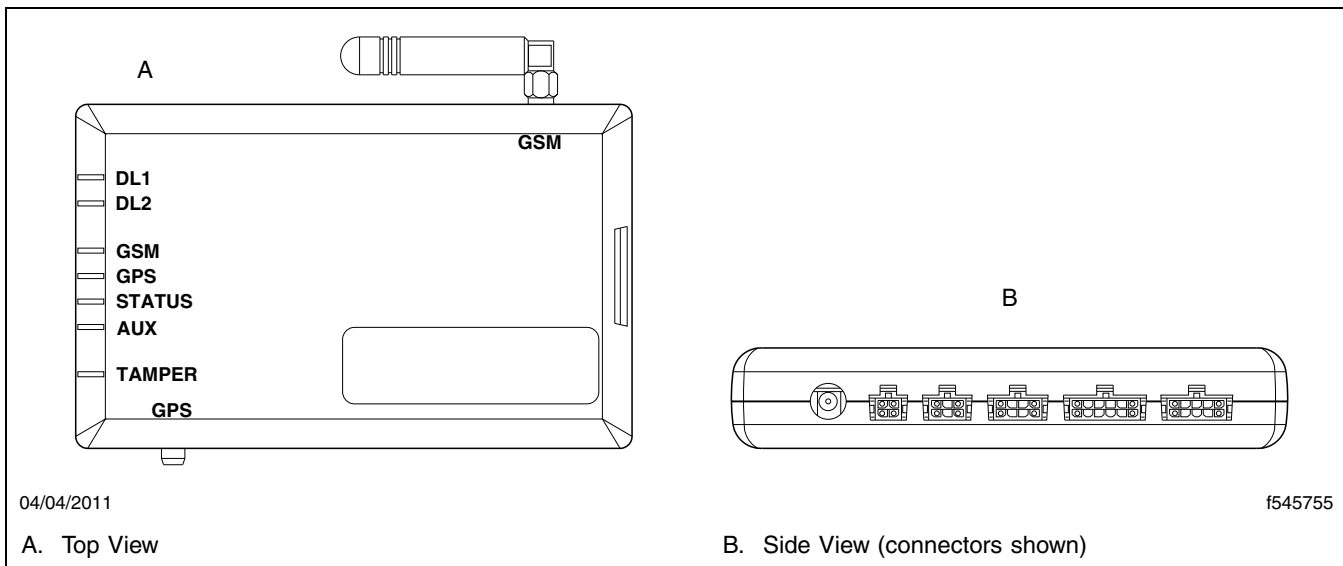

Fig. 1, Virtual Technician ECU
The Virtual Technician (VT) ECU generates diagnostic information to aid Detroit Diesel and the technician in diagnosing complex engine control issues. The system creates sensor log files, captures fault codes, and sends alert messages and other advanced diagnostic information to the Detroit Diesel Customer Support Center. The ECU utilizes GPS navigation, GSM (cellular telephone) communication, and a J1939 connection for databus monitoring. Virtual Technician does not require any driver input to function. The ECU is located behind the sunglass holder on the passenger side of the overhead console, and is mounted to a bracket via hook and loop tape. See **Fig. 1**. The ECU can safely be removed from the mount while remaining wired into the vehicle for visual diagnostic purposes.